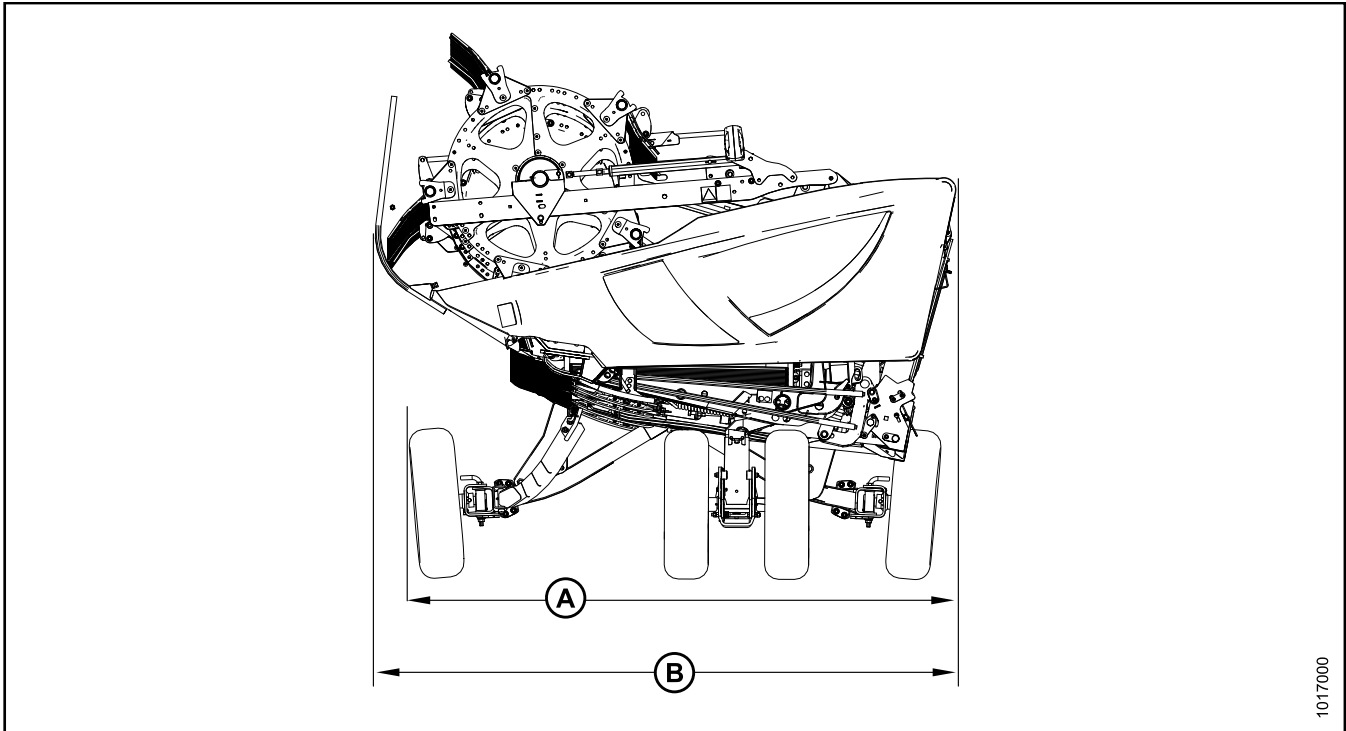

Figure 2.1: Header Width
(B) Long dividers removed (refer to Figure 2.1: Header Width, page 22)	98 in. (2500 mm) -